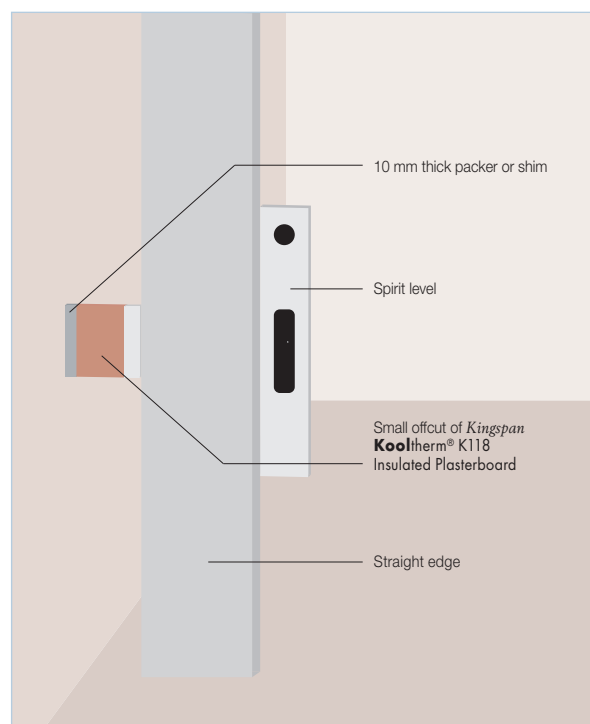
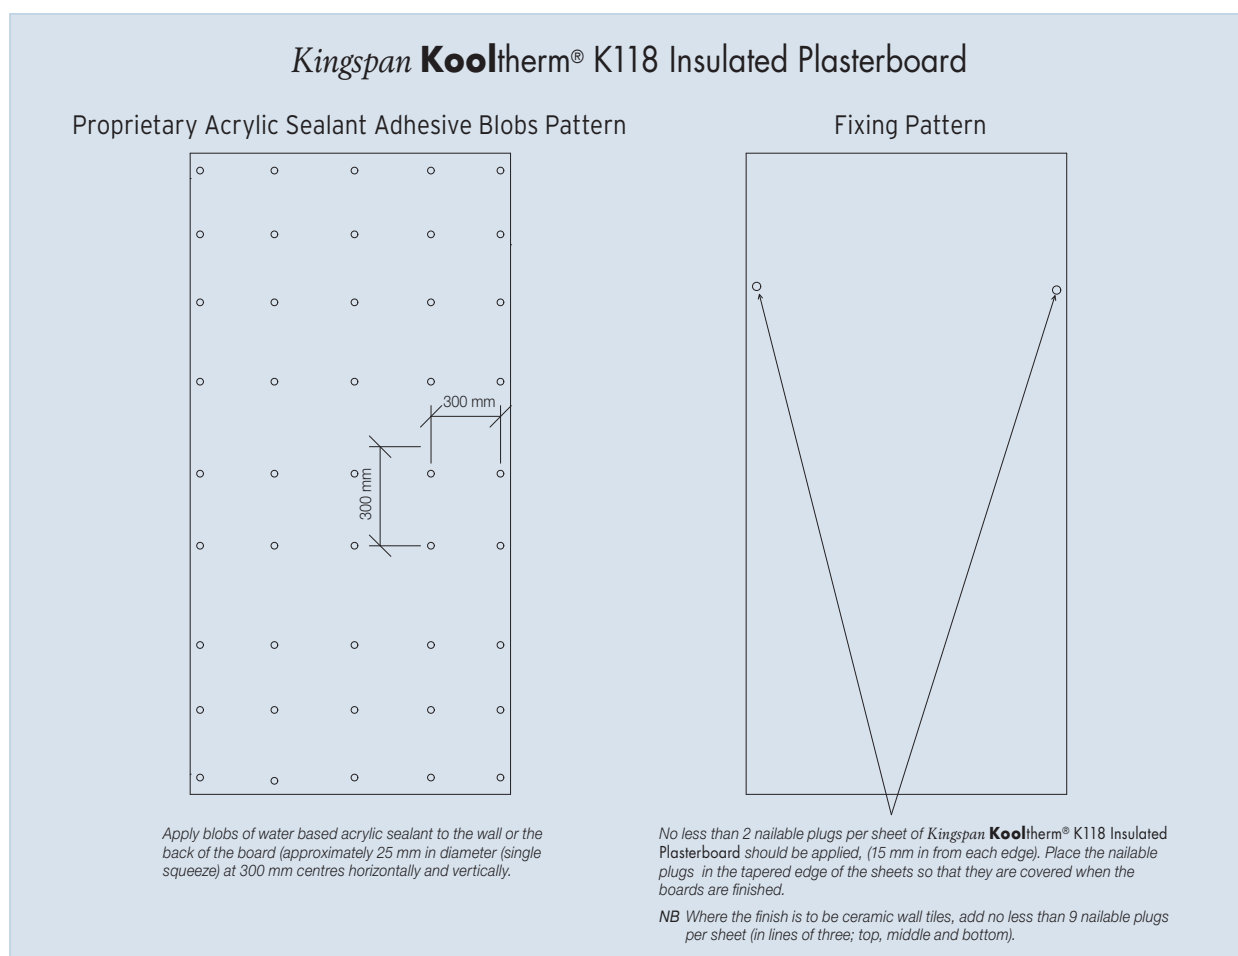

Figure 6: Setting out to install *Kingspan Kooltherm® K118 Insulated Plasterboard*
Figure 9: Acrylic Sealant Adhesive Pattern
- When installing *Kingspan Kooltherm*® K118 Insulated Plasterboard on acrylic adhesive blobs or low expansion PU foam adhesive beads, a 2 / 3 mm thick shim and small offcut of *Kingspan Kooltherm*® K118 Insulated Plasterboard should be used to determine the position of the new wall lining (this is shown in figure 6 but with a 10 mm shim). Once plumb, draw a short line across the floor and ceiling and follow the adhesive patterns shown in figures 9 and 10.
- Once the adhesive has set (acrylic sealant adhesive will grab instantly, and sets within the hour, for PU foam adhesive there is approximately five minutes cure time, and again sets within the hour. Always consult manufacturers guidelines), apply a minimum of two appropriate fixings per board as shown in figures 9 and 10.